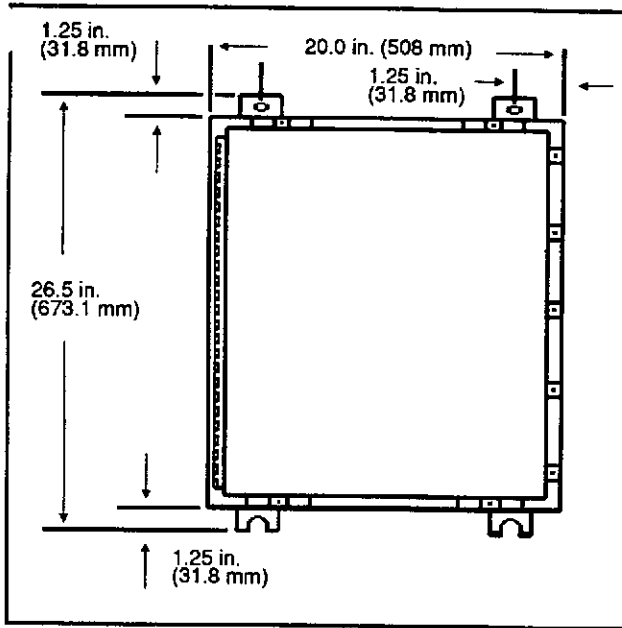

Figure 2-1. Mounting the Enclosure.
Figure 2-1. Mounting the Enclosure . . . . .	2-3
3. You must supply the appropriate hardware for securing the SSU enclosure to your wall. Drill the holes and bolt the enclosure to the wall referring to Figure 2-1.